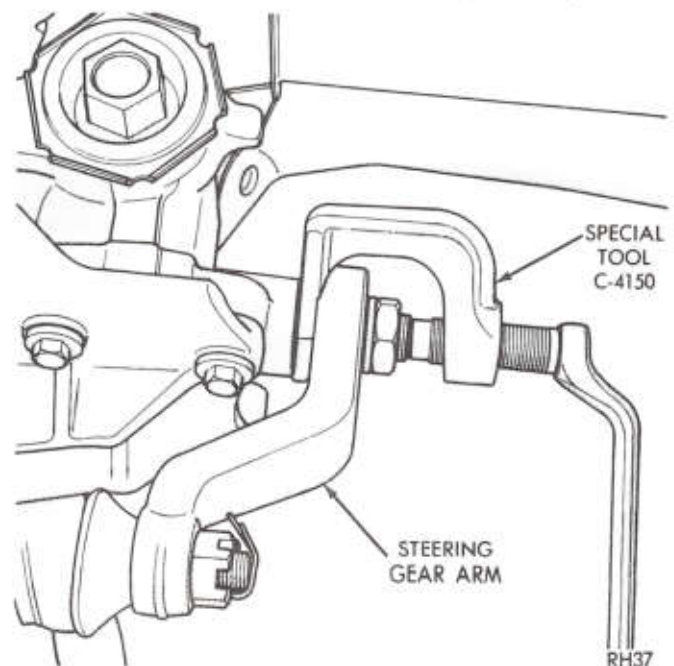

Fig. 4—Remove Steering Gear Arm
- (1) Center steering gear.
- (2) Remove steering gear arm using Tool C-4150 (Fig. 4).